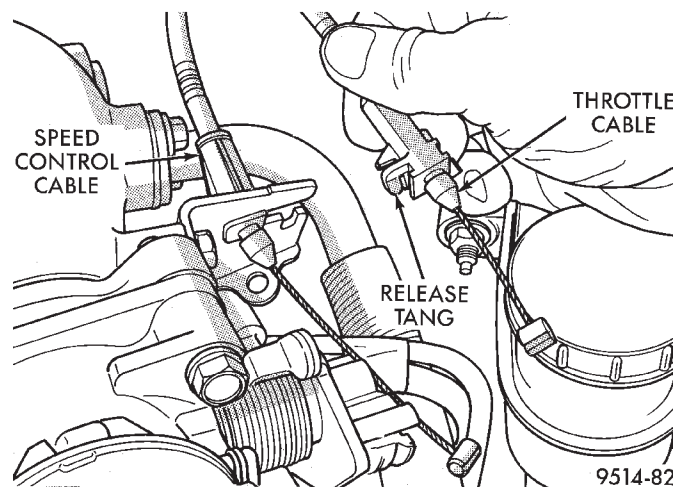

Fig. 34 Throttle Cable Attachment
(11) Squeeze retainer tab on throttle cable and slide cable out of bracket (Fig. 34).
(12) Slide speed control cable out of bracket, if equipped (Fig. 34).